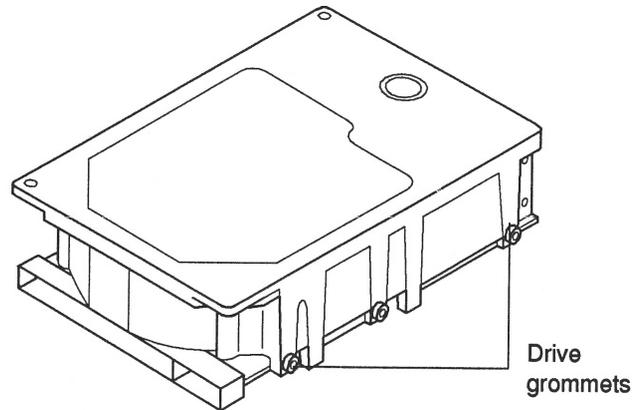

Figure 3-11 Grommets on the Disk Drive
3. If the drive grommets (refer to Figure 3-11) are already connected to the drive, go to step 4. If the drive grommets are not attached to the drive, continue with this step.